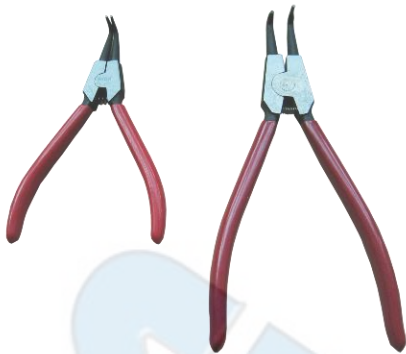

Figure 9-1
- (2) Use the tools to adjust the torsion as Figure 9-1.